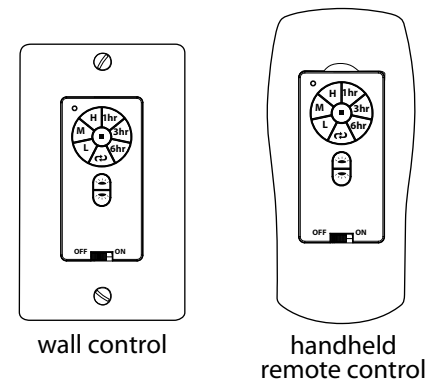

Fig. 9
- C. Operation buttons on front panel of remote/wall control (See Fig. 9):